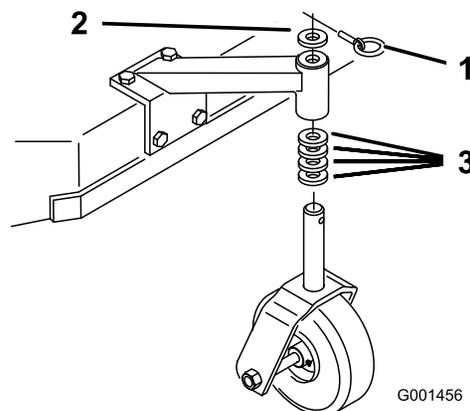

Figure 13
- Using the Height-of-Cut Chart, adjust the caster spacers to match with the axle hole selected (Figure 13).
2. Remove the latch pin, slide the caster from the support, and change the spacers (Figure 13).
3. Install the caster in the support and insert the latch pin (Figure 13).